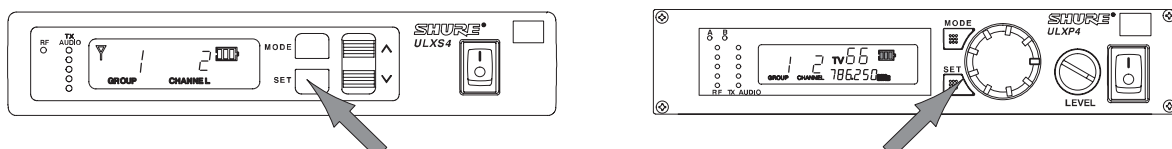

FIGURE 11
- To tune the receiver to the new Channel, press the SET button. The display will return to the default mode, as shown in Figure 11.